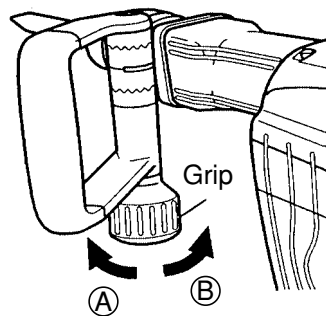

Fig. 10
The side handle can be adjusted by 360° rotation and also allows operation from front to rear. Loosen the handle by turning the grip in (A) direction and adjust the handle to a convenient position. Turn the grip in (B) direction to fix the side handle. (Fig. 10)